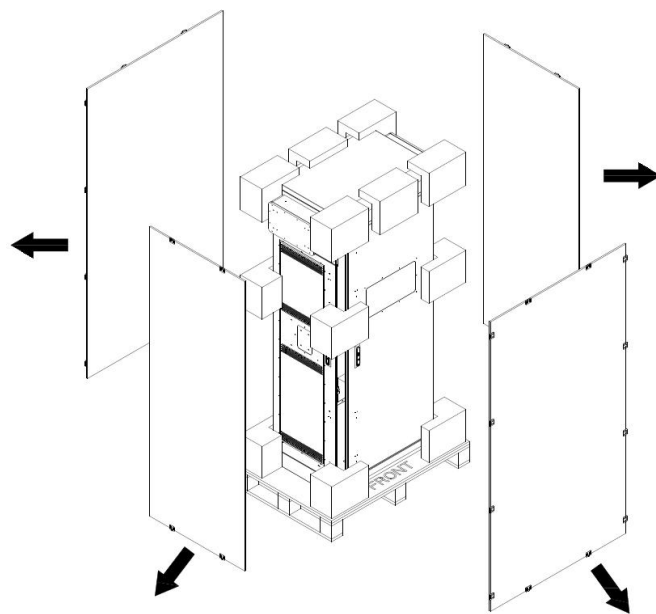

Figure 5
- Remove the wooden boards, and use a utility knife to remove the PE stretch film and pearl cotton wrapped around the charging pile, as shown in Figure 5.